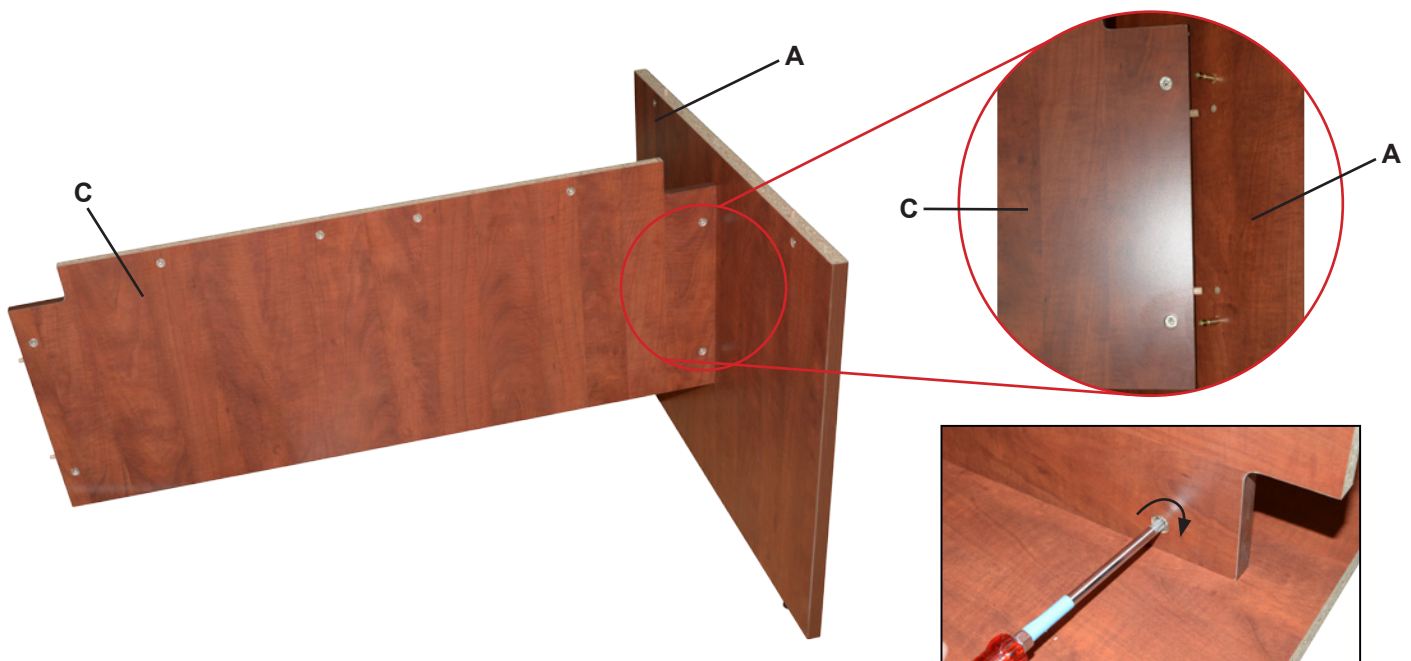

Figure 1
STEP 1: Insert **Cam Pins(L)** into small pre-drilled holes on all **End Legs(A)** and **Center Legs(B)**. *Please Note: Center Legs(B) have sets of holes on both sides.*
STEP 2: Attach **Stringer(C)** to **End Leg(A)**. Next, tighten cam locks with a Phillips screwdriver (see figure 1).